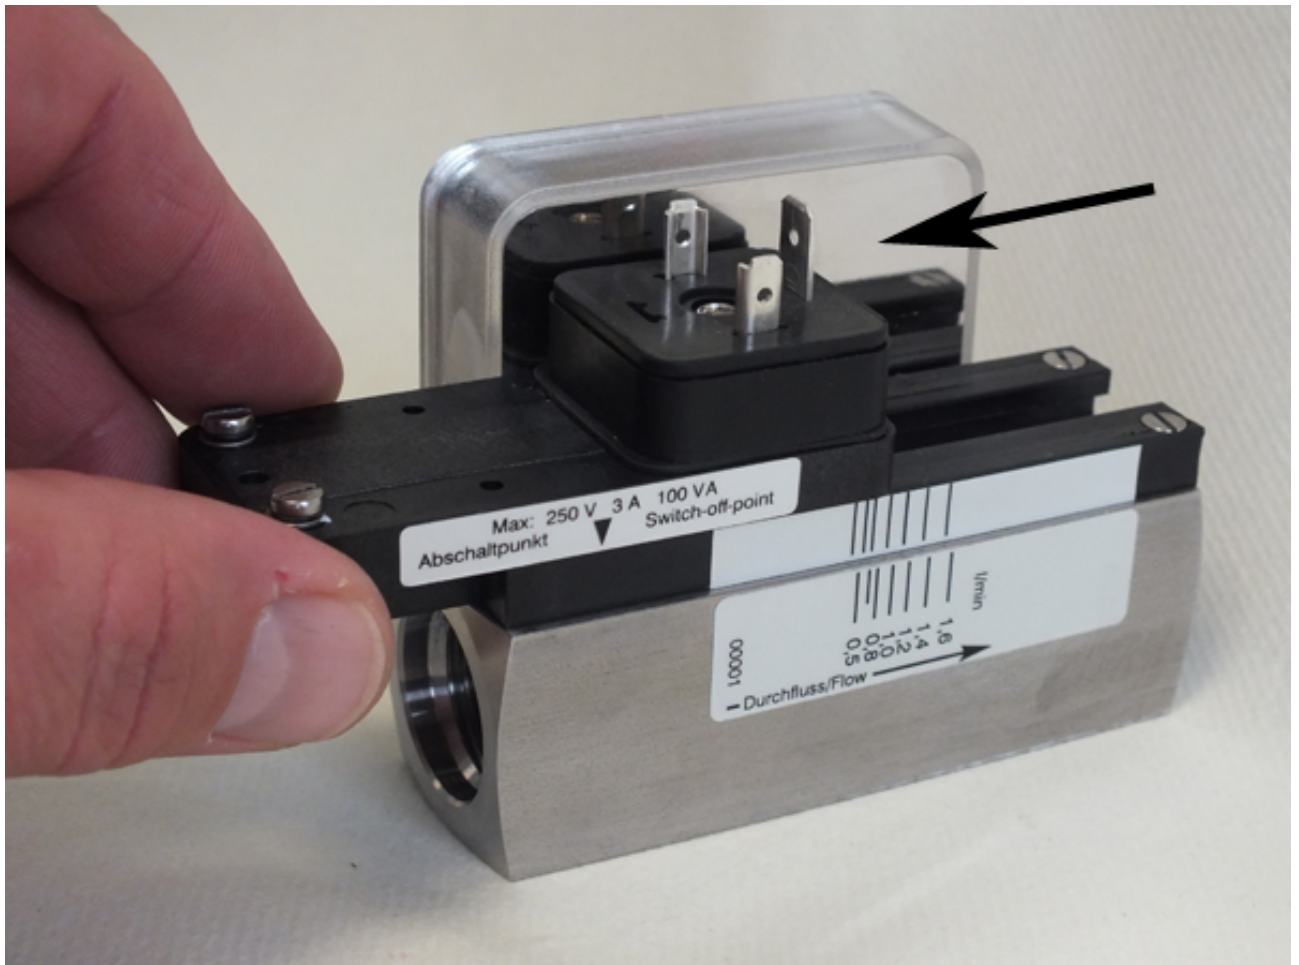

Fig. 73: Remove switch contact from guide rails
4. ➡ Slide the switch contact in the direction of the arrow (Fig. 73) from the guide rails